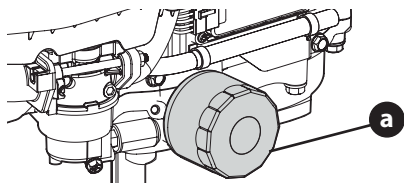

Figure 7
This engine is equipped with a spin-on oil filter that should be replaced each time an oil change is performed, every season or 50 hours (Figure 7).
2. Remove oil filter (a) (Figure 7). Dispose of old oil filter properly.